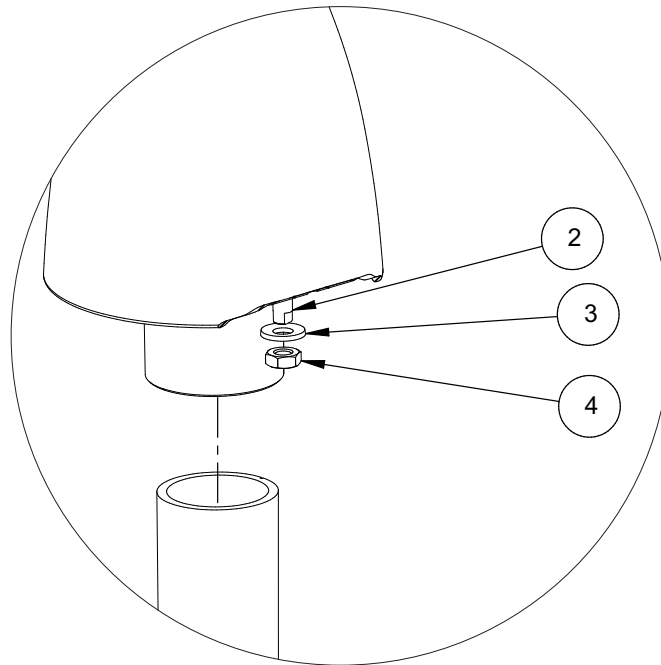

Figure 9.4: Grounding Terminal Assembly
1. Remove the nut (Item 4 in Fig. 9.4) and the safety washer (Item 3 in Fig. 9.4).
2. Place the ring terminal onto the grounding bolt (Item 2 in Fig. 9.4).
3. First place the safety washer (Item 3 in Fig. 9.4) onto the grounding bolt (Item 2 in Fig. 9.4), then screw the M8 nut (Item 4 in Fig. 9.4) onto the thread of the grounding bolt.
4. Tighten the nut (Item 4 in Fig. 9.4) with a max. torque of 6 Nm.